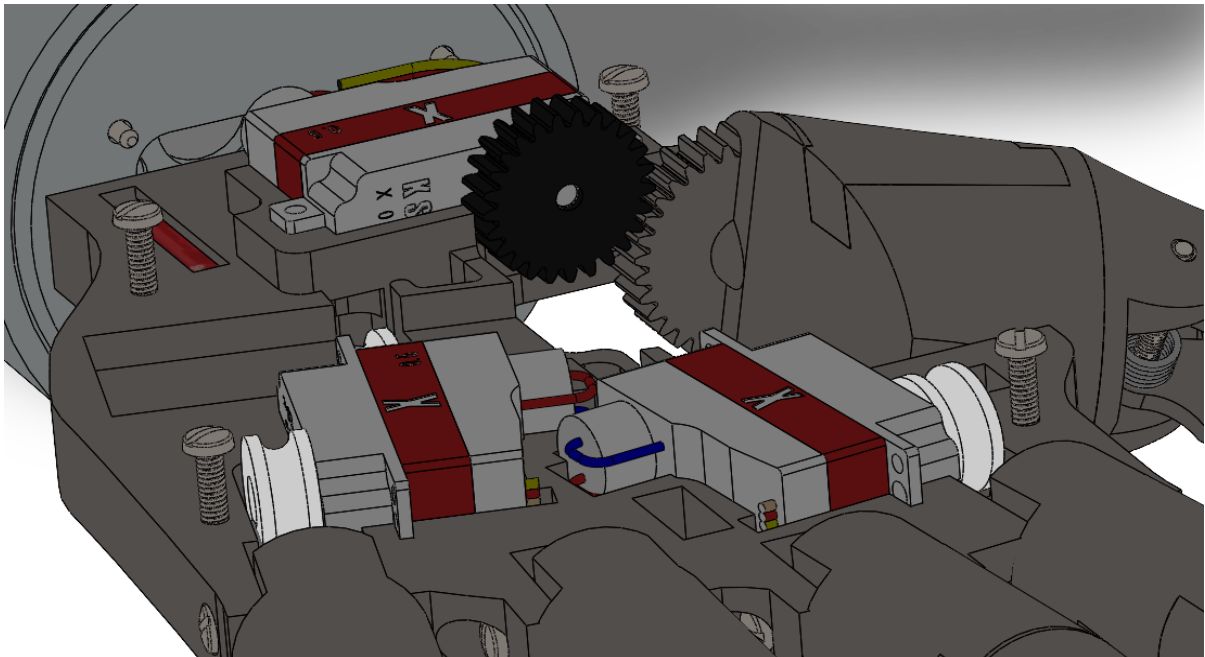

Figure 22: Thumb abduction gear mounting
3. Move the thumb just under parallel with the palm and place the servo with the gear into its position. If it does not go in you may need to take the 2mm rod out of the thumb to adjust. If it is too close to the ***R/L-D1-PPhal-PPart-PalmGear*** you may need to shim Servo 5. (Place a few small sheets of paper under the motor to raise it up for a good gear mesh to prevent gear binding). Screw the servo motor to its place with the screws provided with the servo motor. (See **Figure 22** below.)